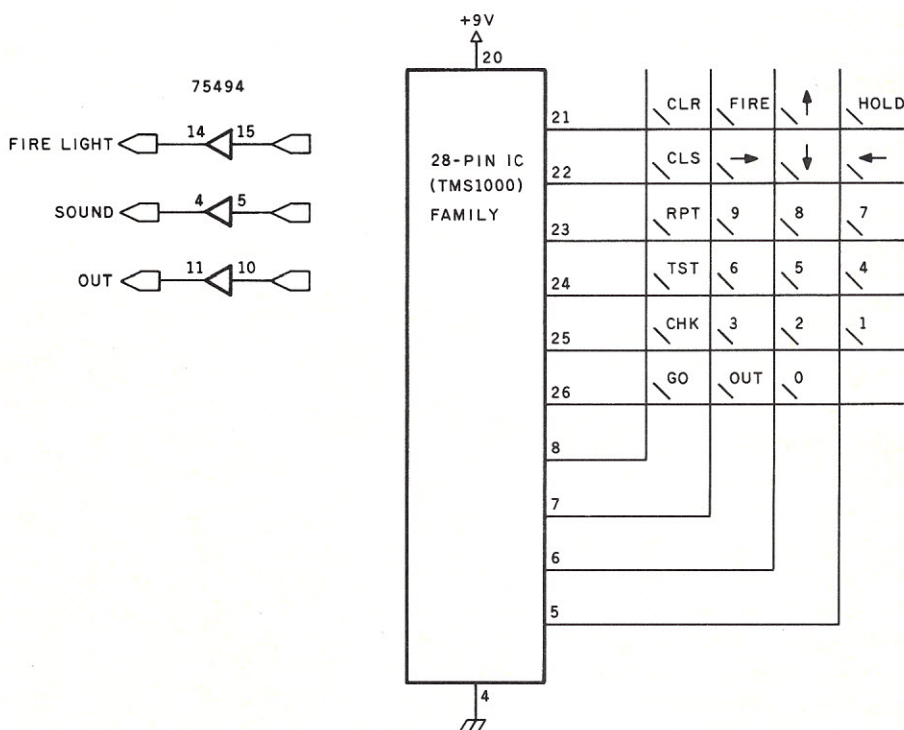

Figure 6: Big-Trak controller partial schematic diagram. This board is mounted in the center of the unit. Covers must be removed for access.
**Big-Trak's Computer.** Figure 6 is a partial schematic diagram of Big-Trak's
With the entire circuit consisting of only two CD4051 ICs, I think it appropriate to describe what these do. The CD4051 is an 8-channel analog switch. An analog switch acts rather like a relay — it will pass variable signal levels accurately, whereas a digital switch or gate will only pass a 1 or 0. This type of switch is necessary in this application since the keyboard scanning signals expect to pass through an actual switch. The analog switch approximates the action of an actual switch better than any other component. Figure 7b shows the electrical switch connections inside the CD4051 circuits as connected to the controller board. Notice the similarity between this diagram and that of the keyboard circuit in the controller schematic of figure 6.